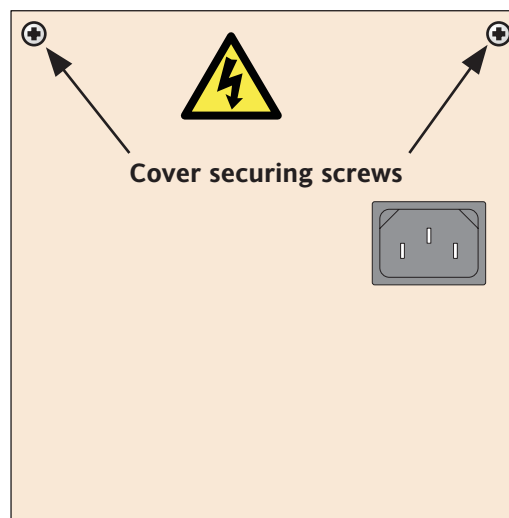

Figure 7.2.2a Securing screw locations
2. At the rear of the recorder remove the terminal cover securing screws (figure 7.2.2a), taking care to retain them for use in re-assembly.